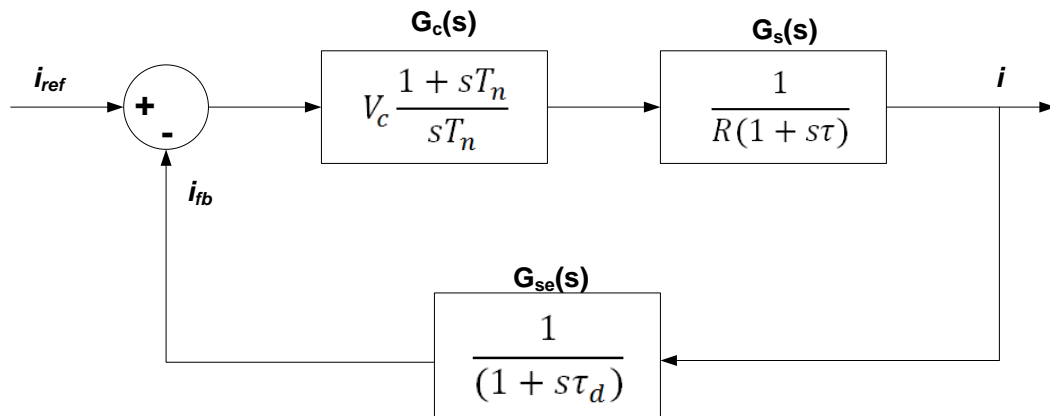

Figure 4.2 Control structure of the current controller of a BLDC motor
- 4.3** The simplified control structure for the current control of the BLDC motor is shown in Fig. 4.2. The controller, plant and the sensor transfer functions are $G_c(s)$, $G_s(s)$, and $G_{se}(s)$ respectively with $R = 1\Omega$, $\tau = 0.3\text{ ms}$, $\tau_d = 50\text{ }\mu\text{s}$.